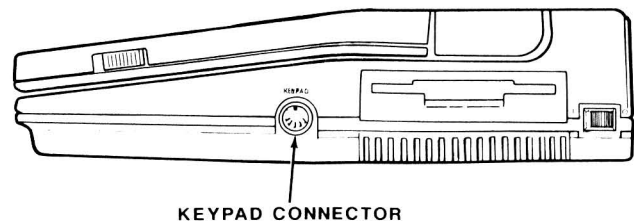

Figure 2-10. Right Side View
**Keypad Connector** — This connector is located on the right side of the computer as shown in Figure 2-10.